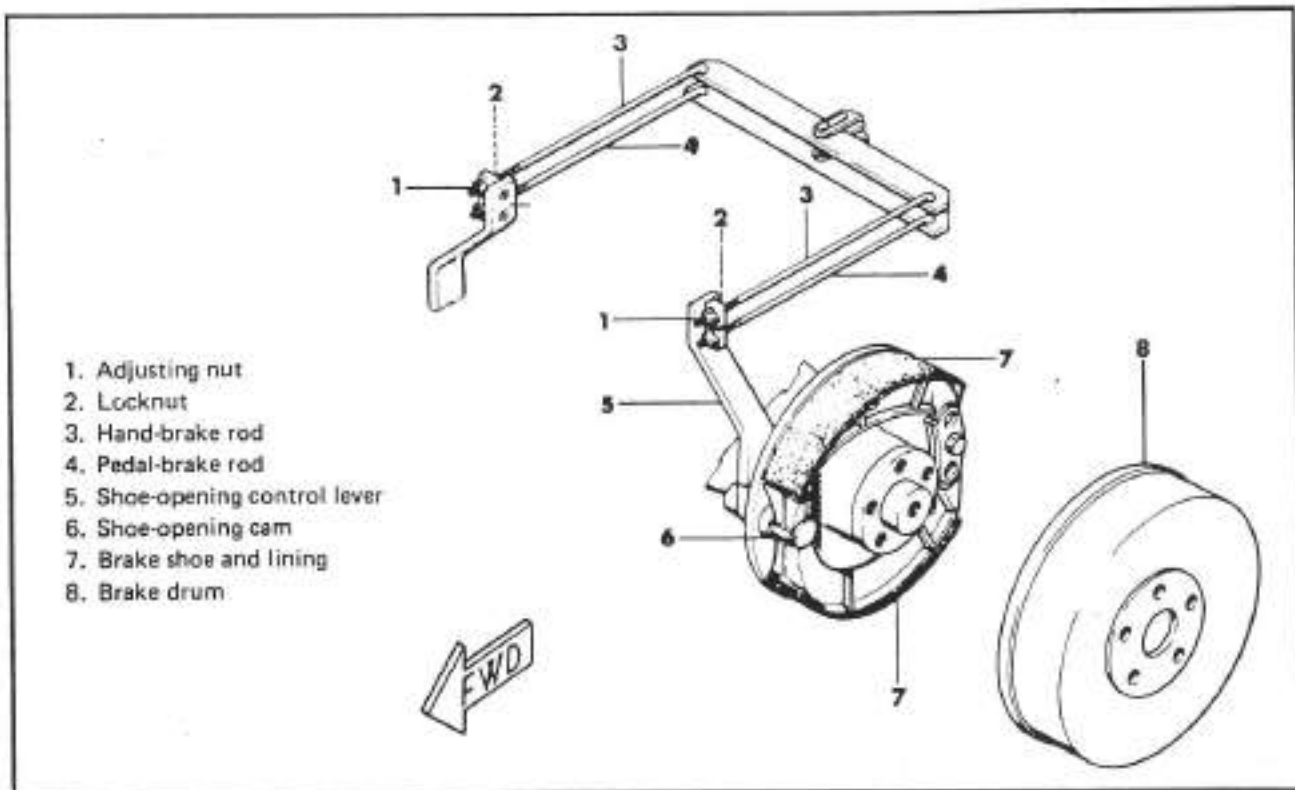
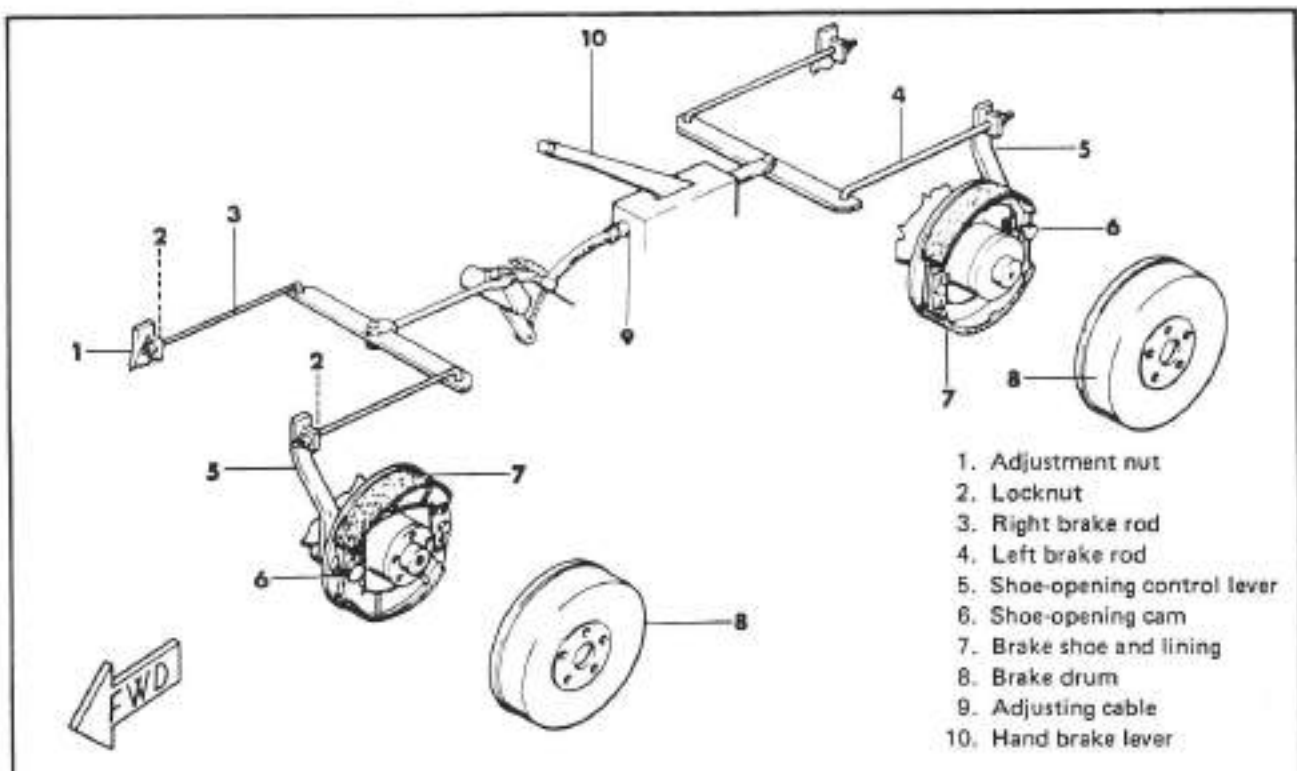

Fig. 2-2. Adjustment of the brakes (tractor Mod. 75)
Fig. 2-3. Adjustment of brakes (tractor Mod. 76)
If the brakes slip or if the idle stroke of the pedal becomes excessive (more than 20 mm), adjust the control rods (4, fig. 2-2) as follows:
- a. Loosen the locknut (2, fig. 2-2).
- b. Tighten the adjusting nut (1, fig. 2-2) until the idle stroke of the pedal is less than 20 mm.
- c. Tighten the locknut (2, fig. 2-2).
If the action of the hand brake is inefficient, adjust the control rods (3, fig. 2-2) as follows:
- b. Tighten the adjusting nut (1, fig. 2-2) until the lever of the hand brake starts the braking action after the idle stroke over the first two teeth of the ratchet.
Adjustment of the rods (3, 4; fig. 2-2) must be made simultaneously when regulating the brakes.
The adjustment is the same as for tractor Mod. 75 by use of the nut (1; fig. 2-3) and the locknut (2; fig. 2-3).
After adjustment, if the front wheels of the tractor have more braking action than the rear wheels or vice versa, adjust the brake cable (9; fig. 2-3) for the rear wheels. See also figure 2-4.
Whenever adjustment of the rods (3, 4; fig. 2-2 or 3; fig. 2-3) is not sufficient to establish a correct braking action (the locknut (2; fig. 2-2 or fig. 2-3) has reached the last thread) it will be necessary to remove the brake drum (8; fig. 2-2 or fig. 2-3) and check the wear on the brake lining. If the wear on the lining is excessive, replace the brake shoes (7; fig. 2-2 or fig. 2-3); otherwise adjust the shoe-opening cam as follows: